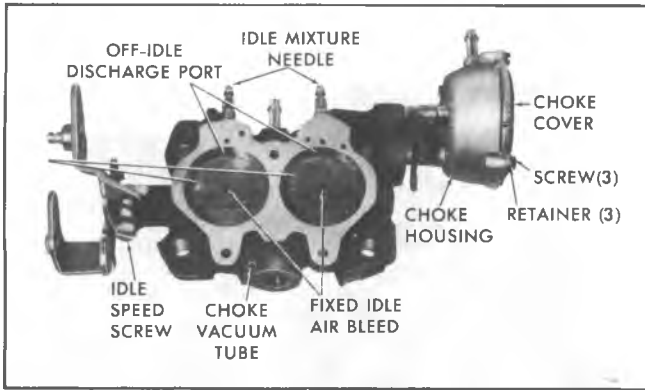

Fig. 7C-Throttle Body
1. Remove the three choke cover attaching screws and retainers, then remove thermostatic coil and cover assembly and gasket from choke housing (Fig. 7C).
1. Install idle speed screw and spring assembly in throttle body if removed (Fig. 7C).
9. Install choke thermostatic coil and cover assembly with new gaskets and end of coil below plastic tang on the inner choke housing lever. Refer to automatic choke coil adjustment (Service) to index cover. Install three choke thermostatic coil retainers and screws. Tighten securely (Fig. 7C).